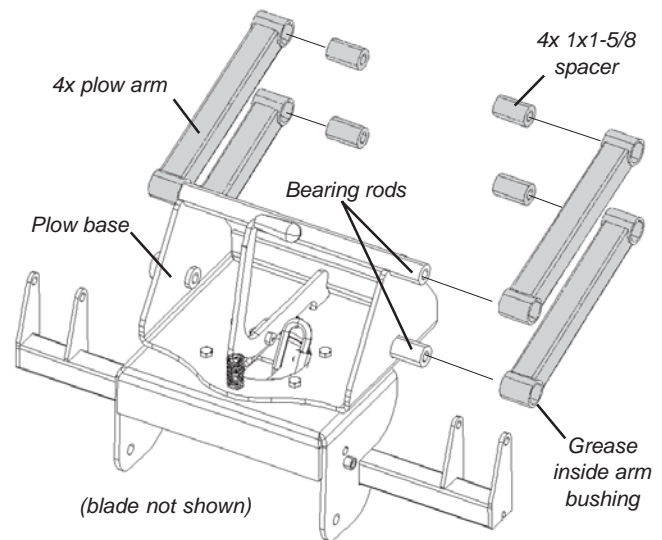

Figure 13 Install plow arms onto plow base
11. Take the plow arms, and generously grease the inside of the bushing on both ends. Tap one end of the arm over the bearing rods of the plow base. See Figure 13. It is normal for powdercoating to be removed during the process. Rotate the arm back and forth until it moves freely around the bearing rod. Add more grease if necessary.
12. Using a hammer, tap a 1" outer dia x 1-5/8" long spacer into one end for each of the arms. See Figure 13.